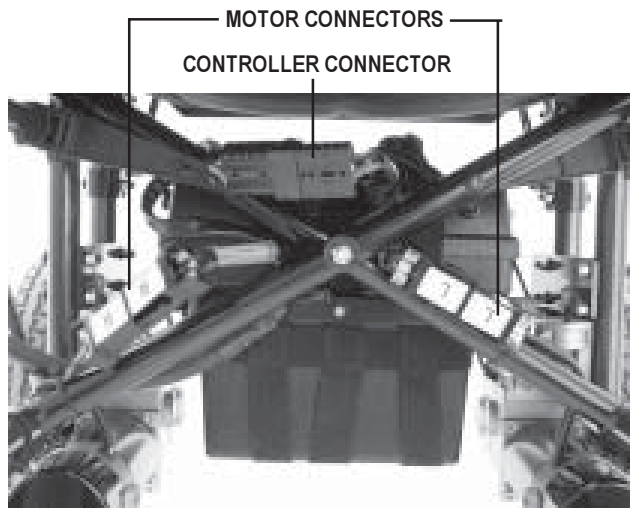

Figure 15. Front Electrical Connections
12. Connect the controller to the motors. The motor/controller connectors are marked “L” for left and “R” for right. Match the “L” on the controller with the “L” on the motor. Match the “R” on the controller with the “R” on the motor. Connect the black connector to the controller connector. See figure 15.
The Pride LX’s controller is connected to the front battery box and to each motor. See figures 15 and 16. The motor connectors are marked “L” and “R”. The “L” harness is connected to the left motor and the “R” harness is connected to the right motor.
1. Disconnect the electrical connections. See figure 15.